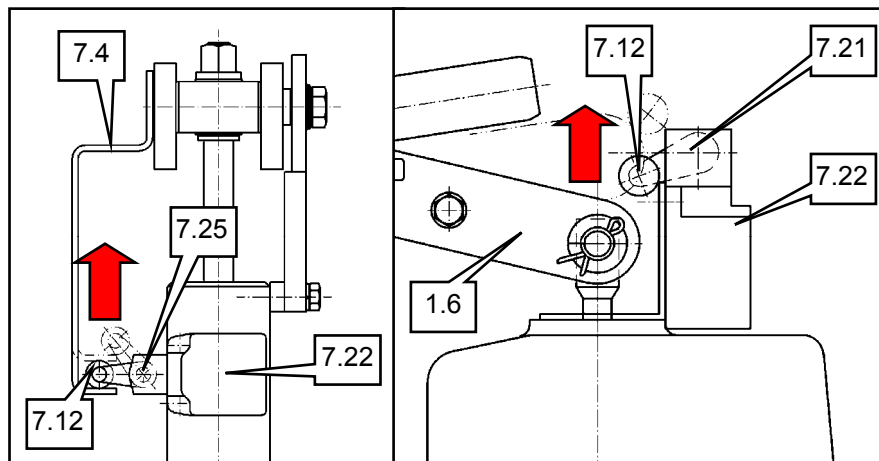

Fig. 9a: release control at spring tube    Fig. 9b: release control at thruster
- Mounted at spring tube (Fig. 9a): The actuating plate (7.4) moves the roll at the lever (7.12) upwards (arrow).